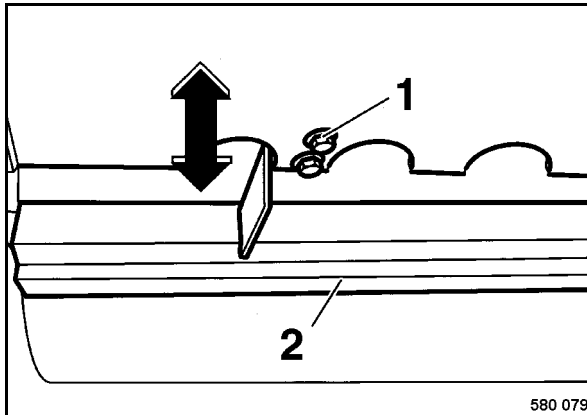

Fig. 114
- To adjust the scrapers 1 (Fig. 114) loosen the fastening screws (2) in the slots and push the scraper bracket towards the drum until the scraper touches.